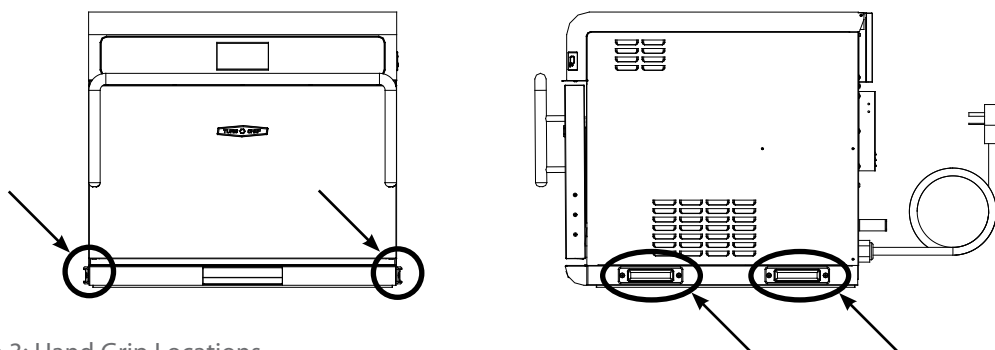

Figure 3: Hand Grip Locations
- !** **WARNING:** Lift only by using the provided hand grips (Figure 3, below). Never lift the oven by the door handle.
3. Place hands into grips (see Figure 3) and lift.